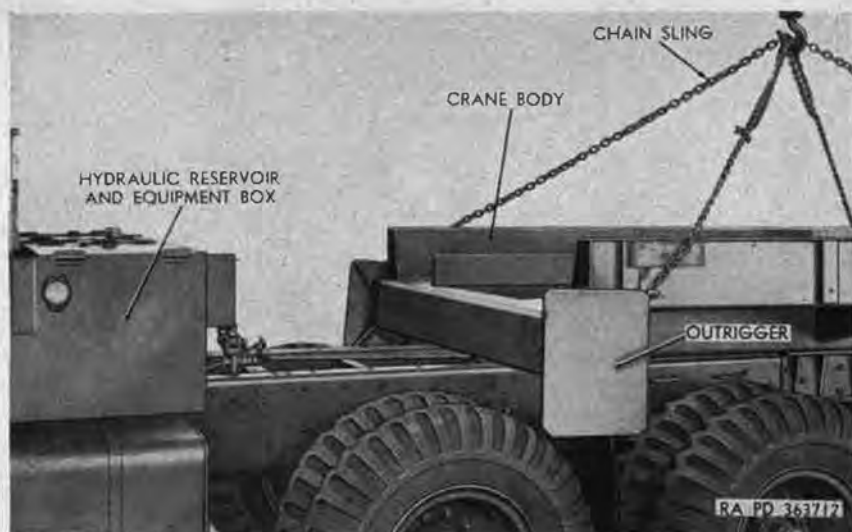

Figure 311. Removing crane body M62.
- (7) Attach a chain sling (fig. 311) and overhead hoisting equipment to crane body, and lift body from vehicle.
- (1) Using chain sling (fig. 311) and hoist, lift crane body into position on truck chassis.